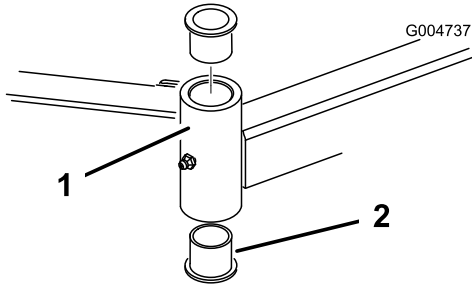

Figure 80
4. Insert a pin punch into the top or bottom of the mounting tube and drive the bushing out of the tube (Figure 80). Also drive the other bushing out of the tube. Clean the inside of the tubes to remove dirt.